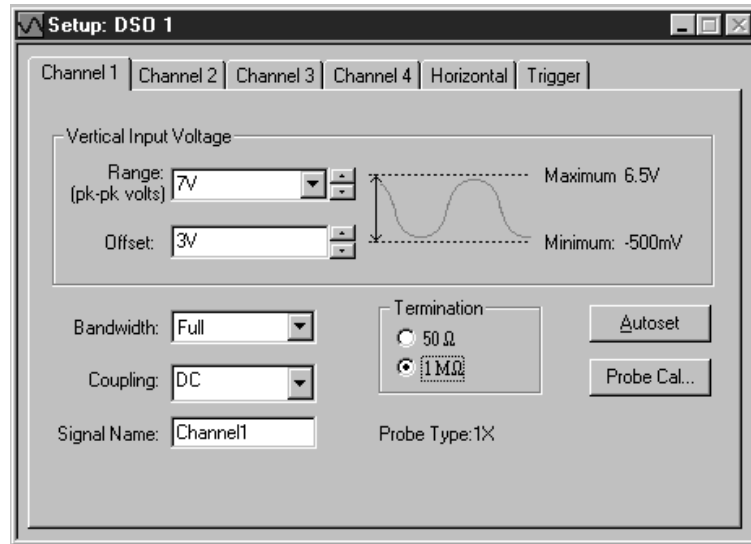

Figure 3–16: DSO Setup window vertical input settings
**Vertical Controls** Use the vertical controls to adjust vertical input voltage parameters. See Figure 3–16.